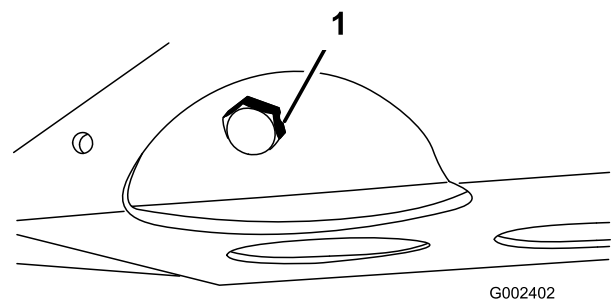

Figure 36
2. Remove the drain plug and let oil flow into a drain pan (Figure 36). When the oil stops, install the drain plug.